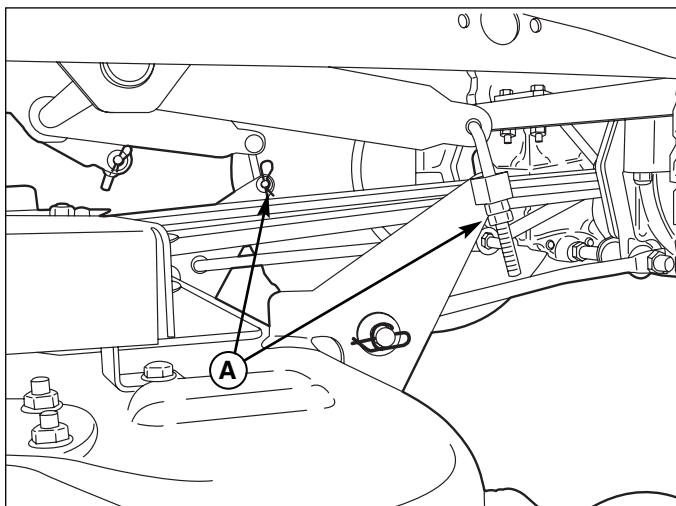

Figure 29. Mower Leveling - Side-to-Side
5. Use the rear leveling nuts (A, Figure 29) to adjust the side-to-side leveling of the deck. Repeat step 4 if necessary.